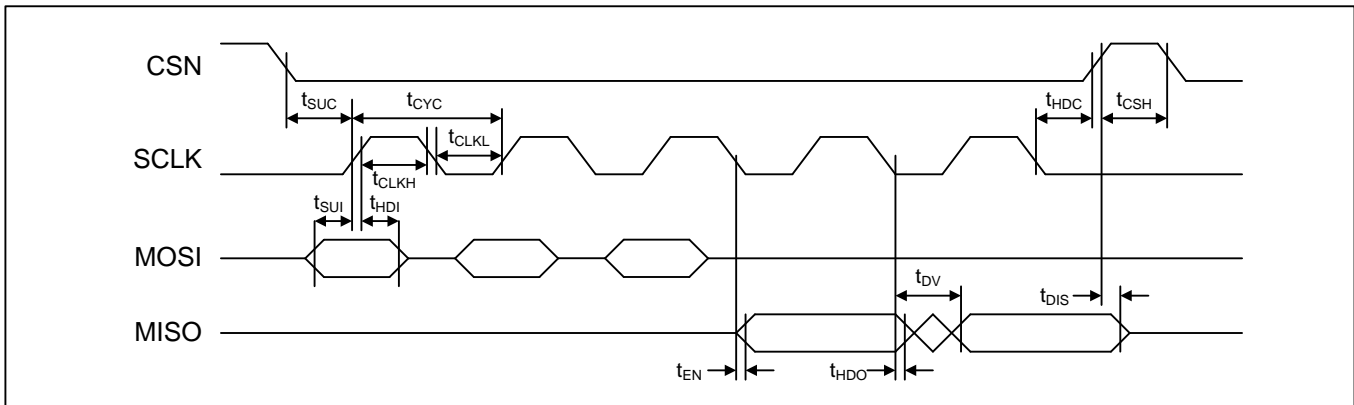

Figure 17 - SPI Slave Interface Timing
- Note 3:** See timing diagram in Figure 17.
Note 4: See timing diagram in Figure 17.